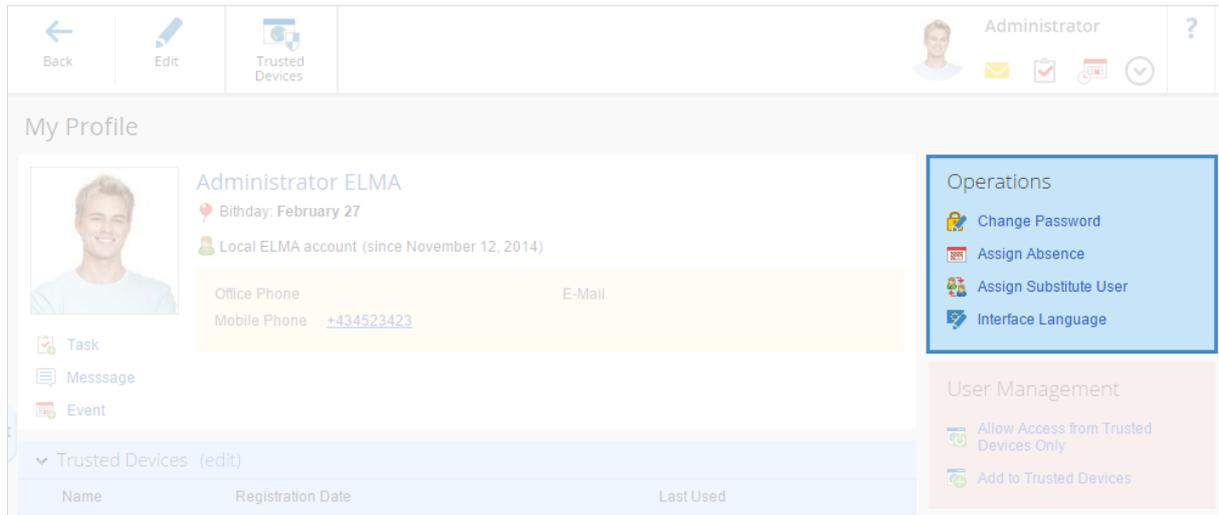

Fig. 31. User profile
**Step 3.** In the right upper corner of the user profile page, you will see **Actions**; in **Actions** click **Change password** (Fig. 31).